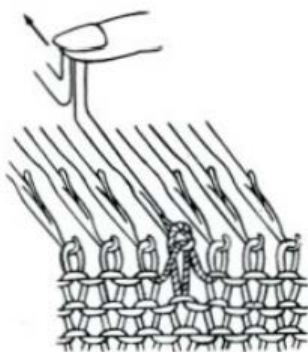

Fig. 35
- c. With your finger on the butt of the needle, bring the needle back. The stitch will slide over the hook of the needle, and be re-knitted. (See Fig. 35, 36)